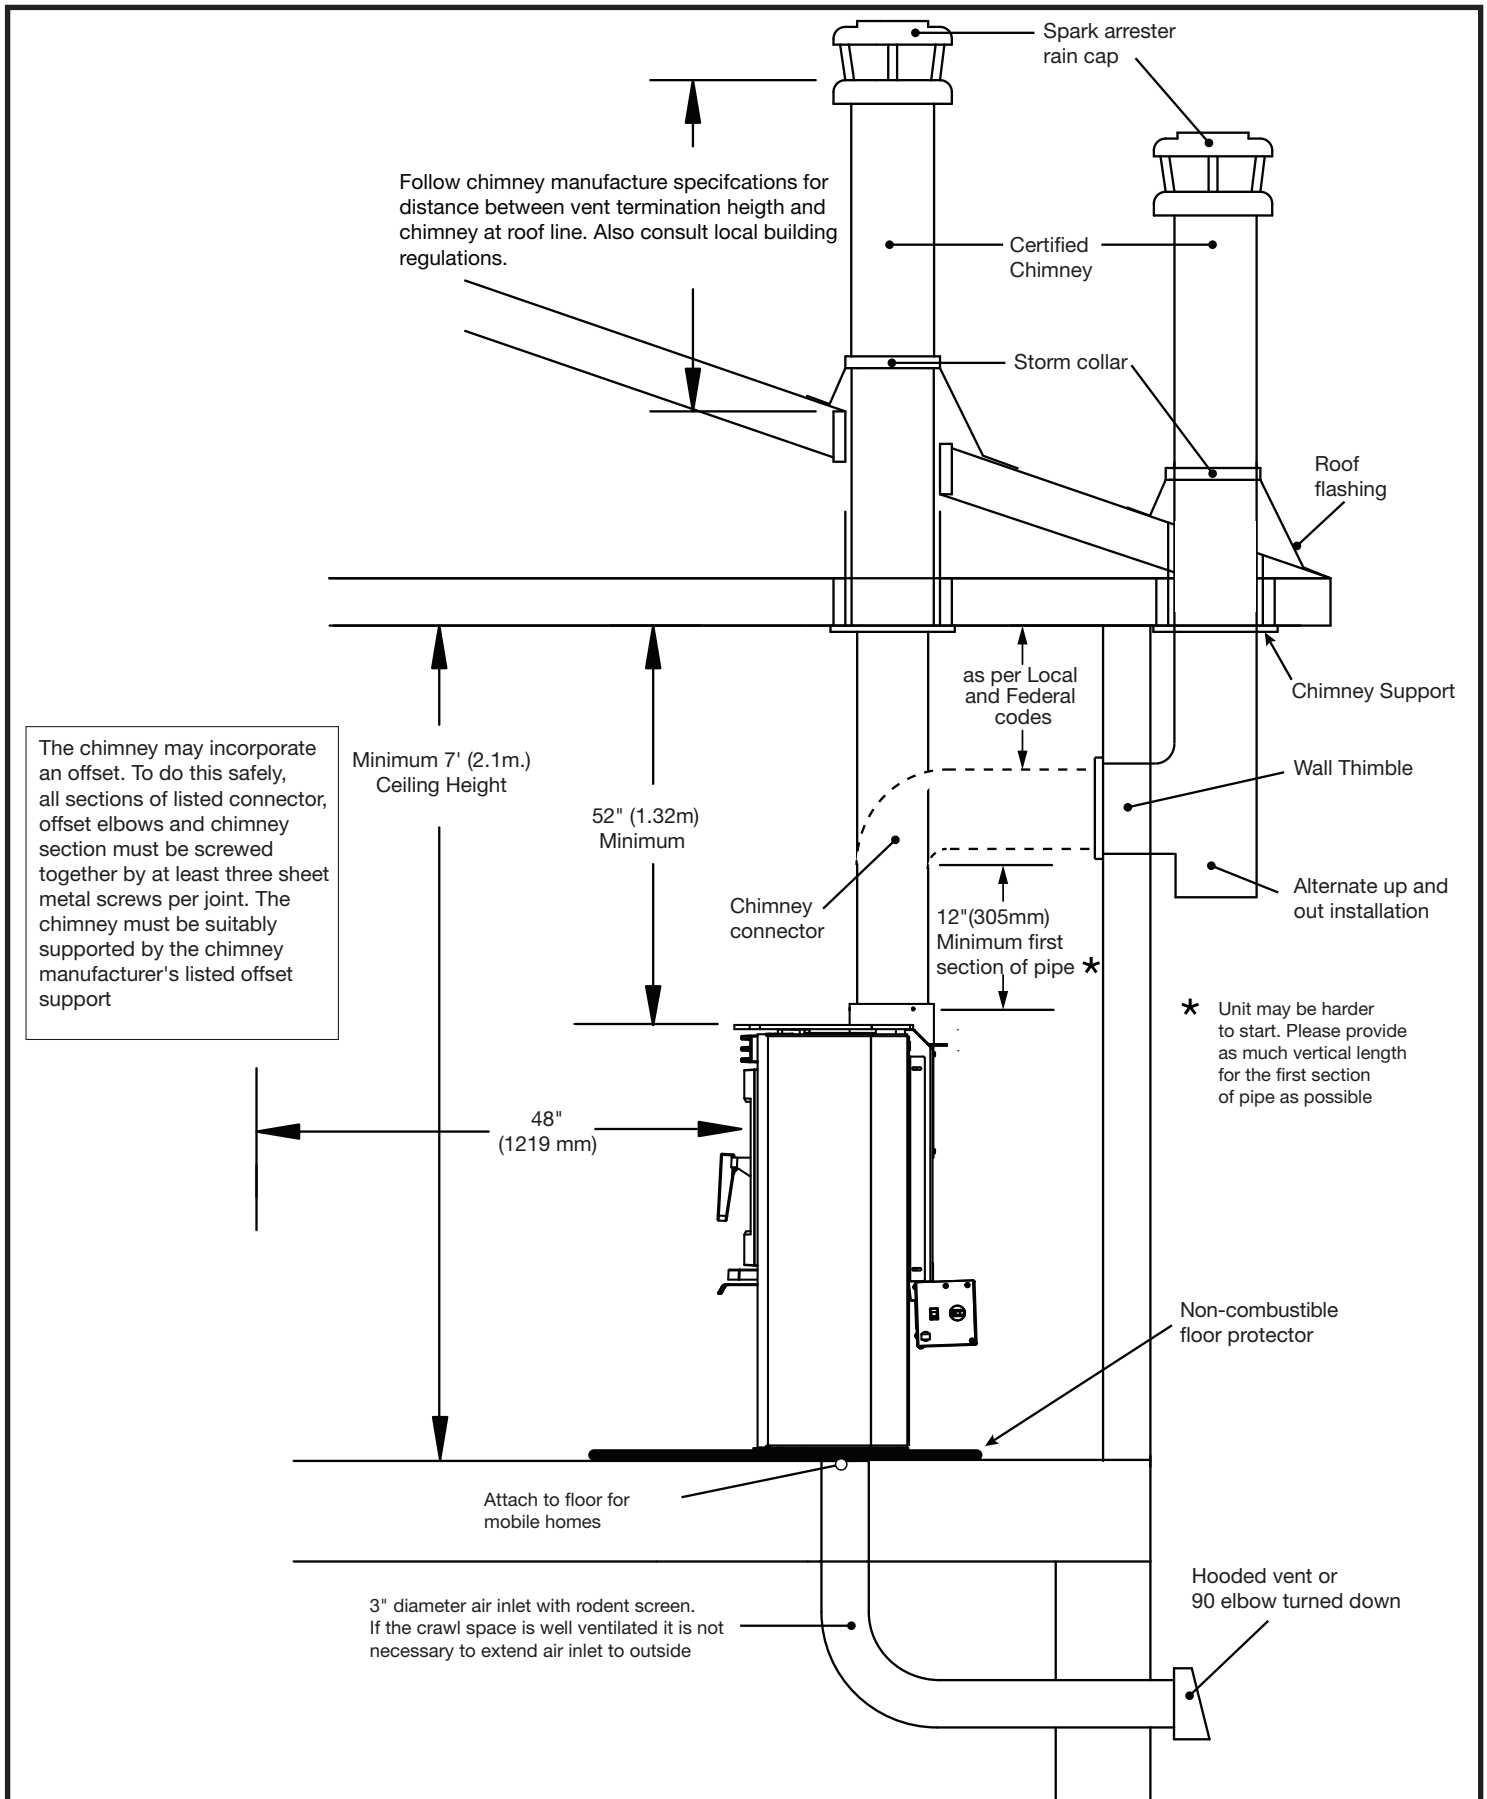

Figure 11: Common residential venting configuration.
- Outside air supply must be used for Mobile Home installations. See "Figure 11" on page 20.
NOTE: Longer chimney lengths and different pitch flashings may be used. All other parts listed must be installed (See Figure 11 on page 20) Install all components to the connector or chimney manufacturer's installation requirements. Consult your chimney supplier for installation advice.